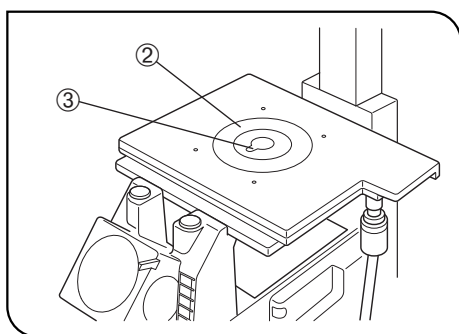

Fig. 84
3. Fit the stage center plate ② into the stage. (Fig. 84)
⊙ To facilitate confirmation of the objective front lens position and application of oil for oil immersion objectives, rotate the stage center plate so that the keyhole ③ will be facing the front. (Fig. 84)